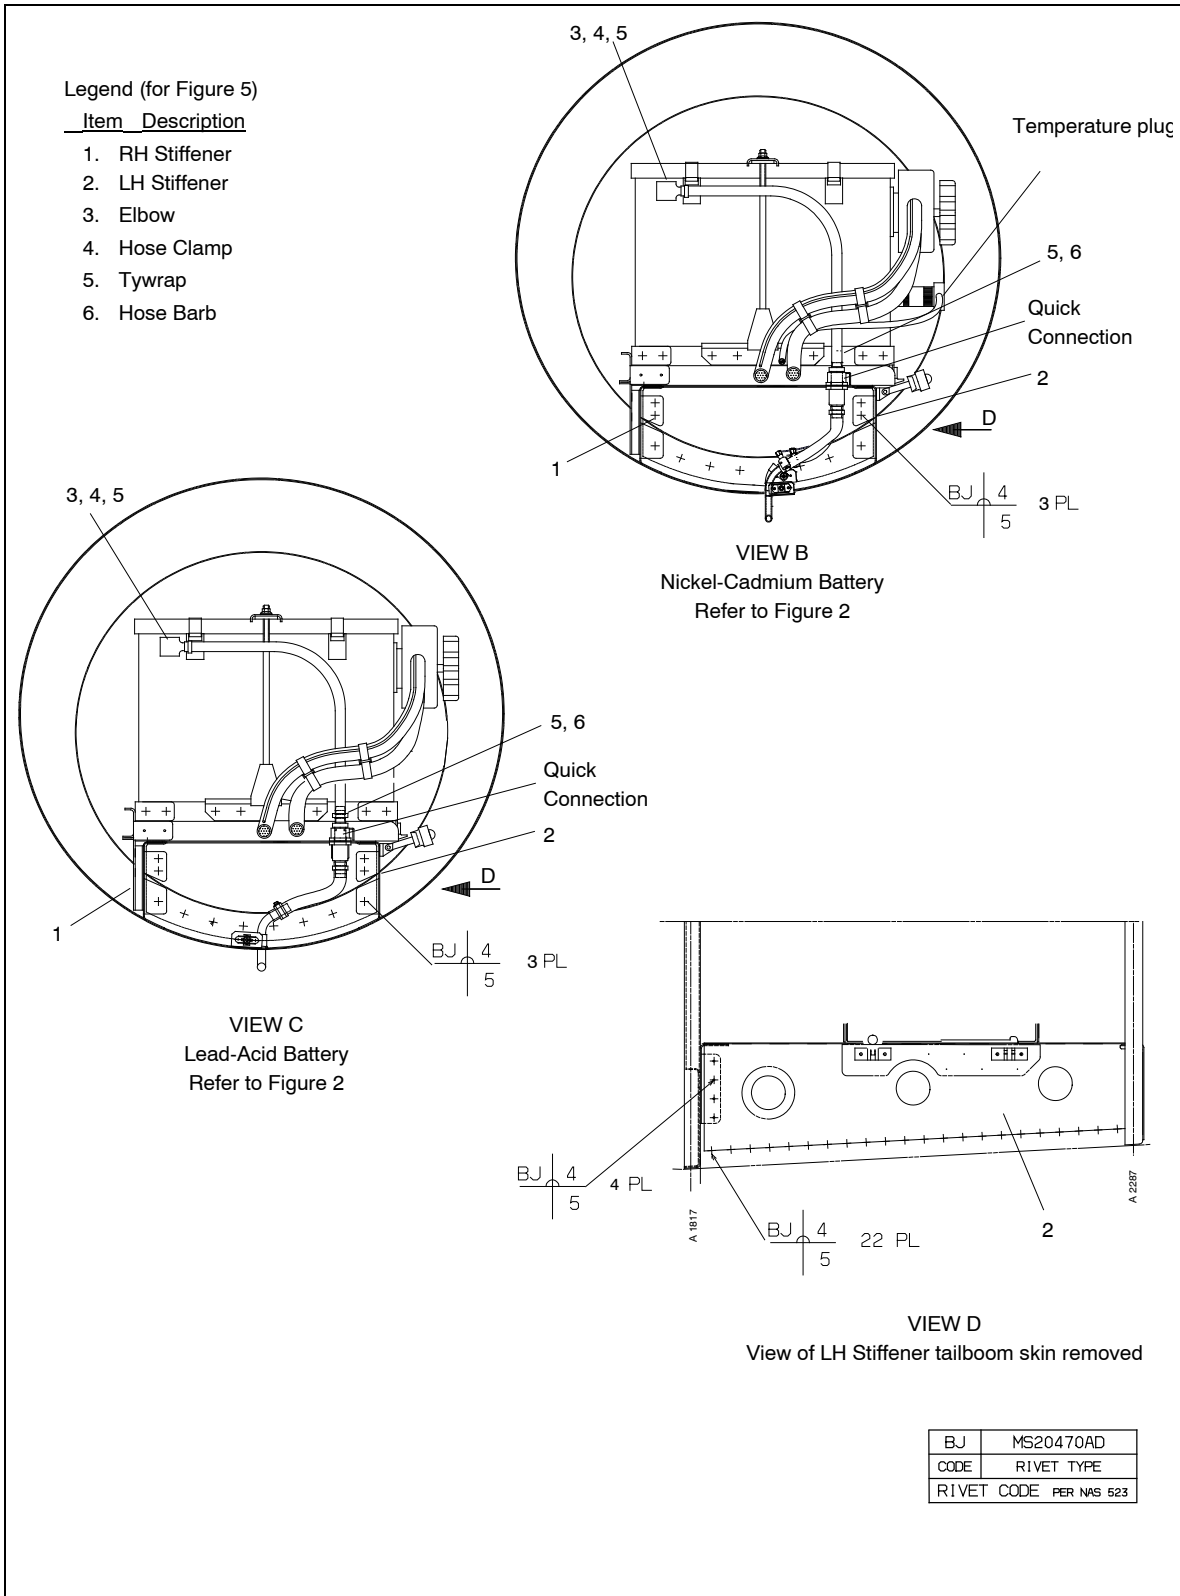

Figure 5 AS 350 Battery Compartment (detail views)
The nickel cadmium, Saft 2376 battery type comes with a temperature sensor. The lead-acid, Concorde battery, part number RG-390E is a sealed, valve regulated battery. Refer to Figure 5.
- Battery (Refer to Figures 5 and 6)